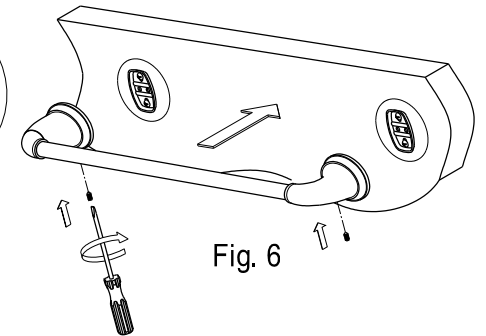

Fig. 6
Step 7. Place the unit, with the small hole in the base underneath, over the mounting plate by tightening the slotted set screws with a flat head screwdriver until the base is tightly fixed (fig. 6).